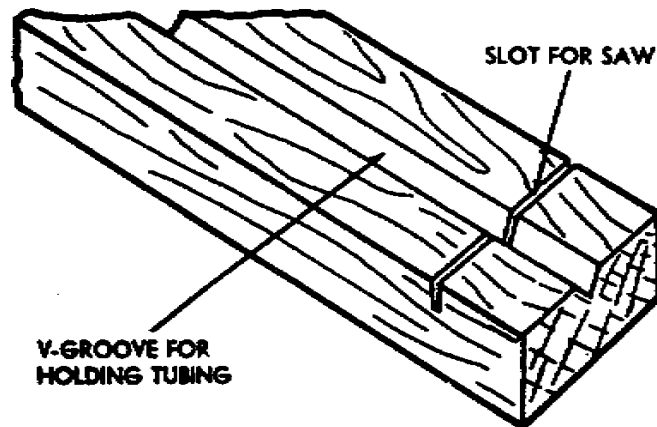

Figure 20. Jig for cutting tubing with a hacksaw.
(5) Close the jaws lightly against the pipe by turning the handle clockwise.
(6) After the wheel(s) and rollers have just made contact with the pipe, make another clockwise quarter turn on the handle. This gives the wheel(s) a "bite" on the pipe. Apply thread cutting oil to the wheel(s) and pipe.
(7) Rotate the cutter completely around the pipe, making a quarter turn on the handle for each complete revolution, until the pipe is cut.
(8) If the pipe has been cut with a three-wheel cutter, the outside bur must be removed with a file before the pipe can be threaded.
d. Use of tube cutters. Both rigid and flexible copper tubing may be cut with a tubing cutter or a hacksaw. Follow the procedure for cutting iron pipe when using the pipe cutter; generally, no vise is required to hold the tubing. One hand holds the tubing firmly while the other turns the cutter. A vise may be needed to cut tubing of large diameter, in which case care must be taken to avoid crushing the tubing. An iron pipe coupling sawed in half and lined with sheet lead can be placed around the pipe to protect it while it is held in the vise. If a hacksaw is used, it should have a fine-toothed blade (24 teeth per inch). A miter box or jig, made from a piece of wood 2 to 4 inches long (fig 20), will help to keep the cut square. After cutting, remove all burrs by reaming.